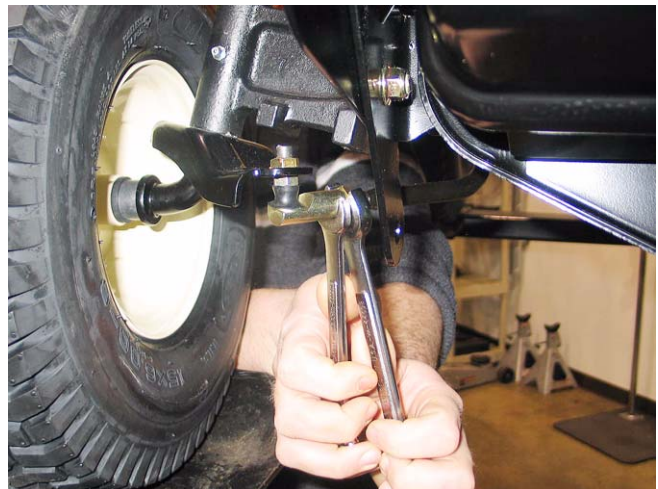

Figure 36.9
- 36.9. Loosen the jam nut at the rear of the right ball joint that secures the ball joint to the drag link using a $1/2$ ” wrench and an $11/16$ ” wrench. See Figure 36.9.